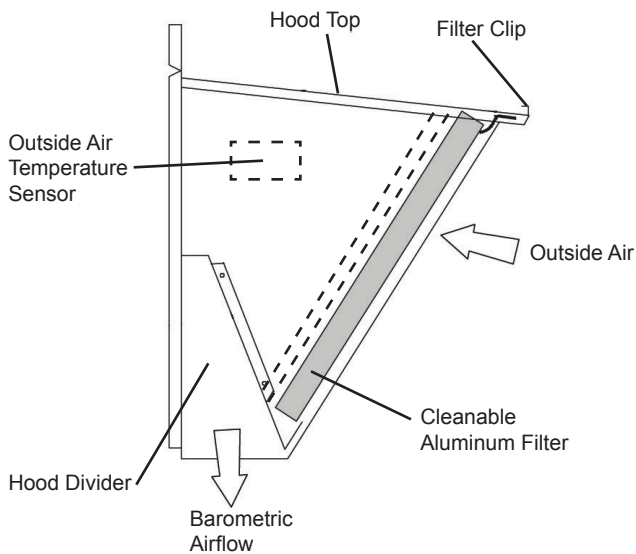

Fig. 5 - Filter Installation
15. Open the filter clips on the inside of the hood top. Insert the aluminum filter into the hood and close the clips to hold in place. See Fig. 5.